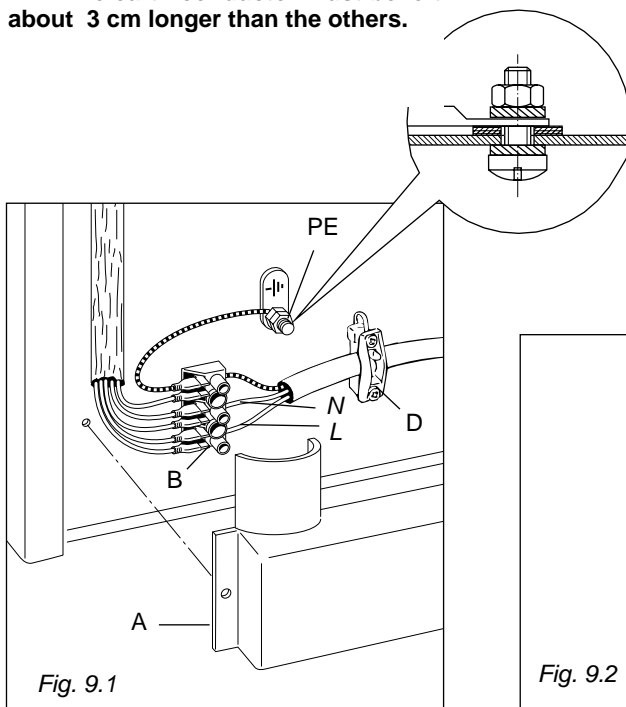

Fig. 9.1
- Remove the screws securing the cover “A” on the rear of the cooker (fig. 9.1).
- Connect the wires to the terminal block “B” as shown in the diagram in figure 9.2; or connect the phase wires to the terminal block “B” and the earth wire to the terminal PE as shown in figure 9.1.